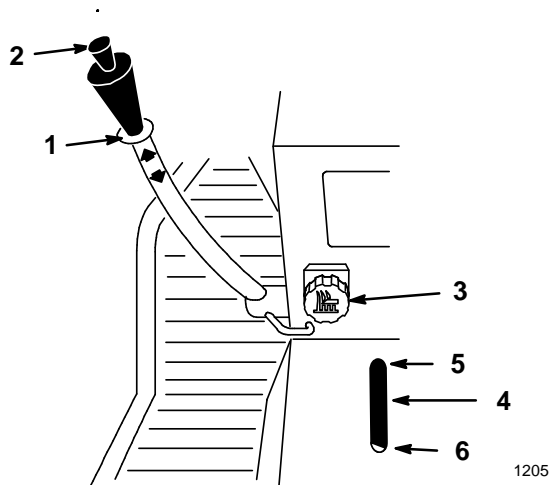

Figure 19
The attachment lift lever (Fig. 19) is used to raise and lower various attachments.
The Dial-A-Height control (Fig. 19) is used to limit the downward travel of the attachment. The Dial-A-Height knob is rotated to change the location of this stop, up or down.
1. Raise the attachment lift lever: Refer to Raising Attachments. In the raised, position the Dial-A-Height knob (Fig. 19) can be rotated to change the stop location. Turn clockwise to raise and counterclockwise to lower the height of the attachment.
2. The Dial-A-Height indicator (Fig. 19) will show the change, high to low, in attachment lift height as adjustment is made.